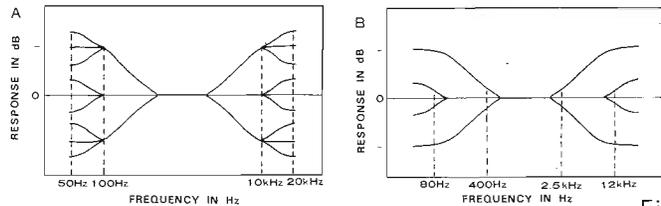

Fig. 6
Similarly, the larger TREBLE control knob adjusts treble response at 10kHz by $\pm 10\text{dB}$. The signal can be further adjusted at 20kHz by $\pm 5\text{dB}$. Fig.6 (A) shows the obtainable frequency response curves when both controls are used together. If the larger knobs are left at "0" and only the smaller knobs used, these function as tone controls with turnover frequencies at 80Hz and 12kHz, respectively. Conversely, if both small controls are left an "0" and only the large knobs used, these act as tone controls with turnover frequencies at 400Hz and 2.5kHz. Fig.6(B) illustrates these uses.